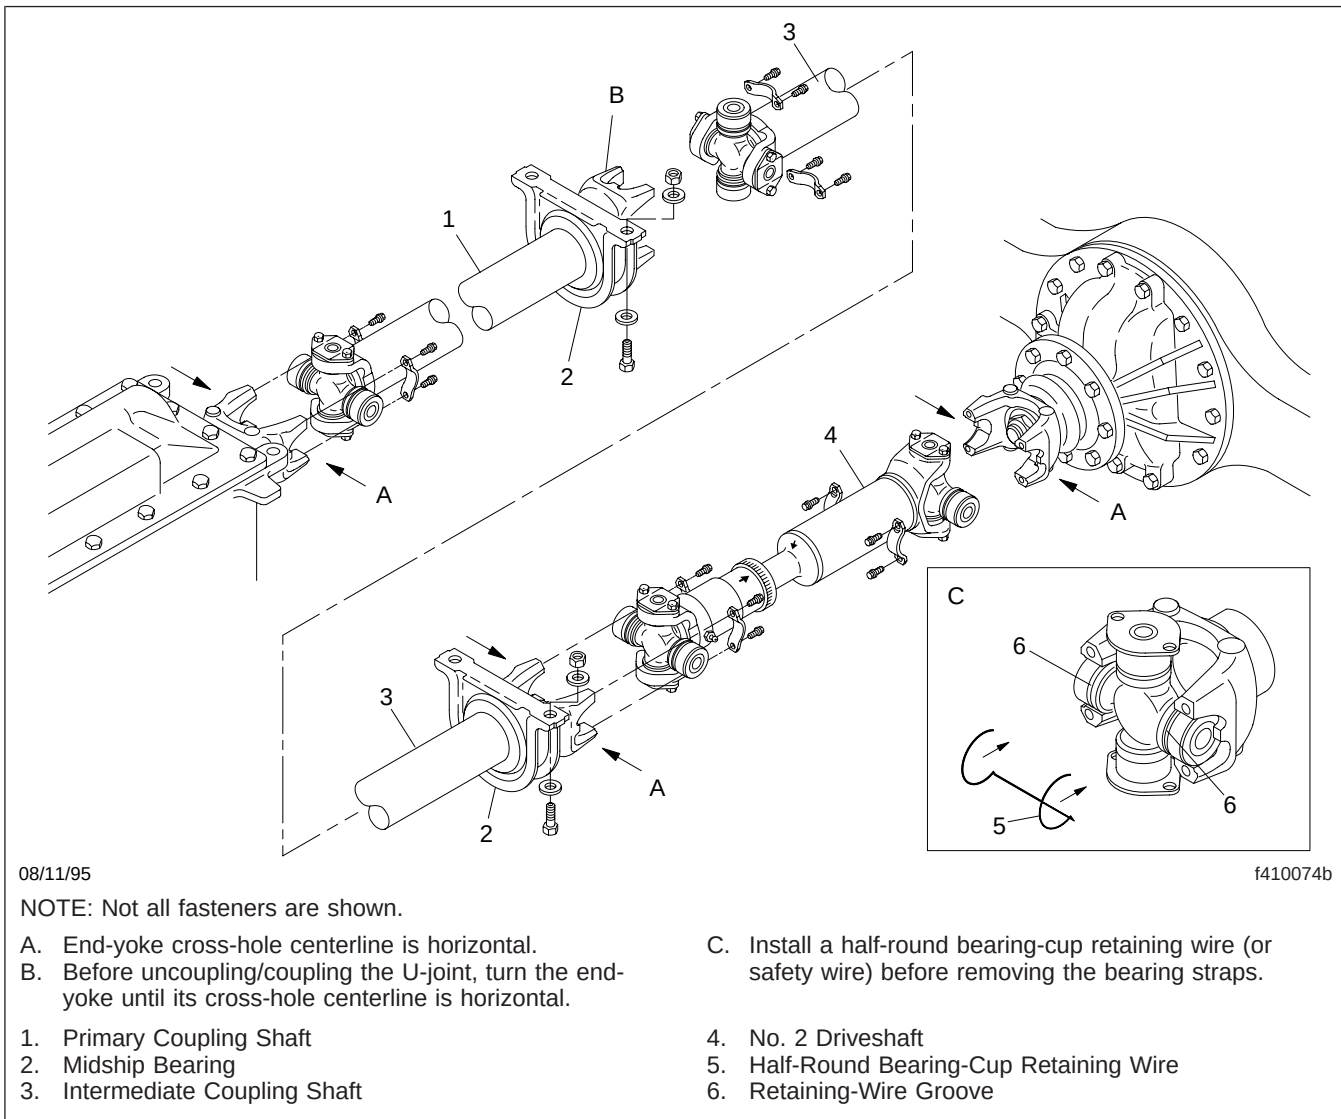

Fig. 1, U-Joint Uncoupling/Coupling for Drivelines With Half-Round End-Yokes, Except RPL U-Joints
See Fig. 1 and Fig. 2 for driveline configuration.
- 1.4 Turn the end-yoke until its cross-holes are horizontal. See Fig. 1 and Fig. 2.
- 2.1 Remove the bearing-cup retaining wire or safety wire. See Fig. 1, Ref. C.
- 2.7 Install a bearing-cup retaining wire. See Fig. 1, Ref. C. Or, install safety wire from the retaining-wire groove of one half-round bearing cup to the other.